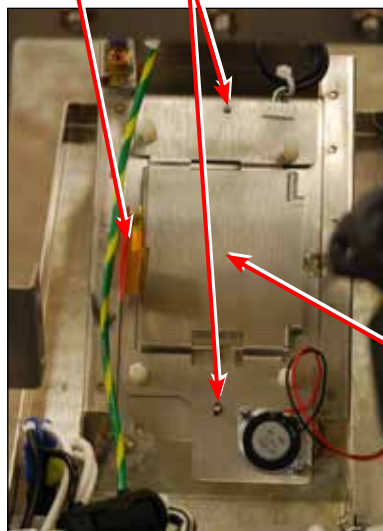

Figure 23d
1. Remove the 2 retaining nuts to remove LCD bracket. (Figure 23d)